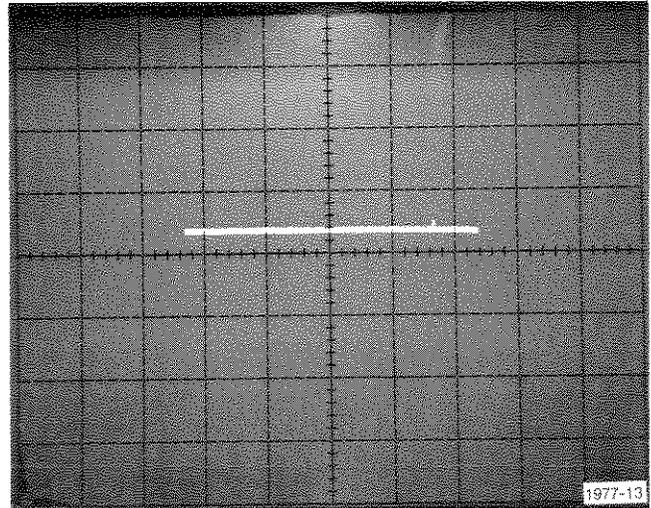

Fig. B-2. + Input bias current display.
c. Check that the input current does not exceed 30 nA (3 vertical divisions, see Fig. B-2).